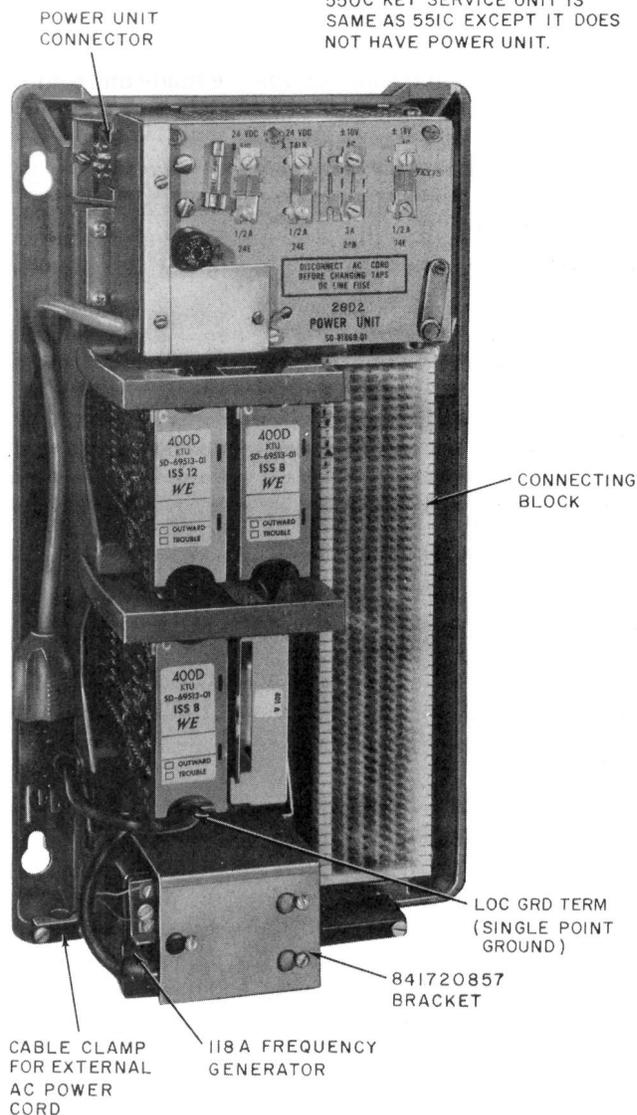

Fig. 1 — 551C KSU With Frequency Generator
(a) **Basic Units (Fig. 1):**
- (c) **551A KSU (MD):** Connect the external power cord to the power unit cord through the cutout in the bottom of the KSU case.
- (a) Attach the generator to the mounting bracket (841720857) with the three screws supplied (Fig. 1). Snap the pins of the bracket arms into the holes in the backboard flanges of the KSU. Let the generator rest against the front of the interrupter with its power cord to the left. Connect the feed-through type plug to the external ac power cord and, if the KSU is a 551C, to the power unit cord.